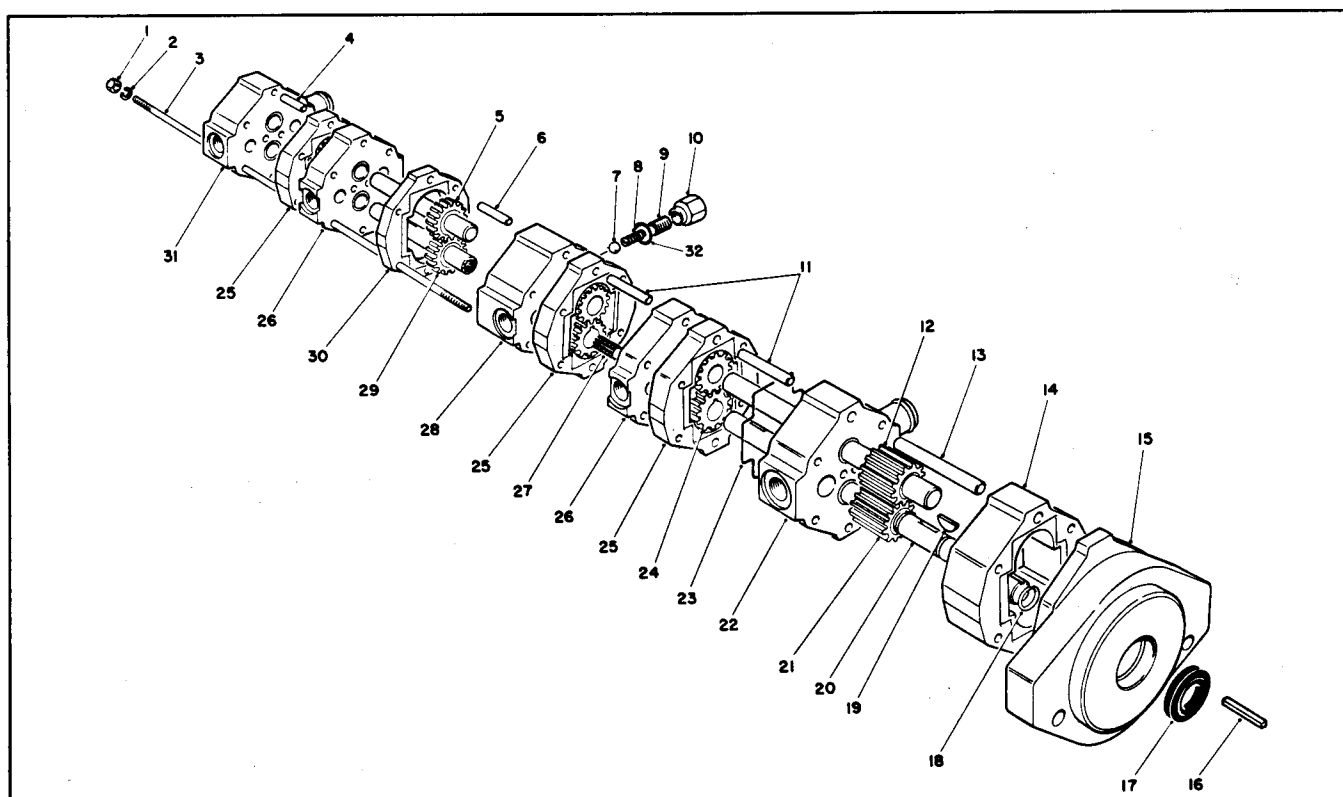

Figure 22
1. Remove cap (Fig. 22, Item 10). Remove valve adjuster (Item 9), spring (Item 8), and ball (Item 7).
3. Secure the flange end of the pump (Fig. 22, Item 15) in a vise with the drive shaft (Item 20) pointing down.